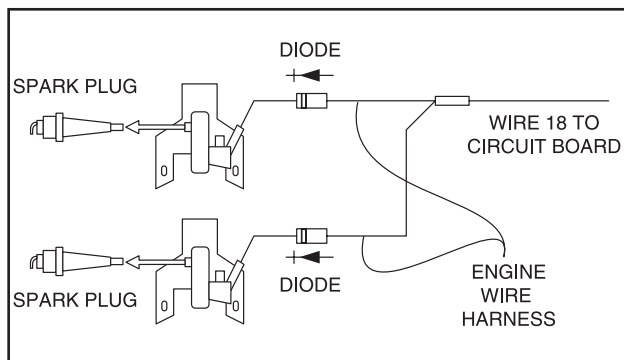

Figure 24. Engine Ground Harness
10. Disconnect the engine wire harness from the ignition magnetos and stud connector (Figure 24).